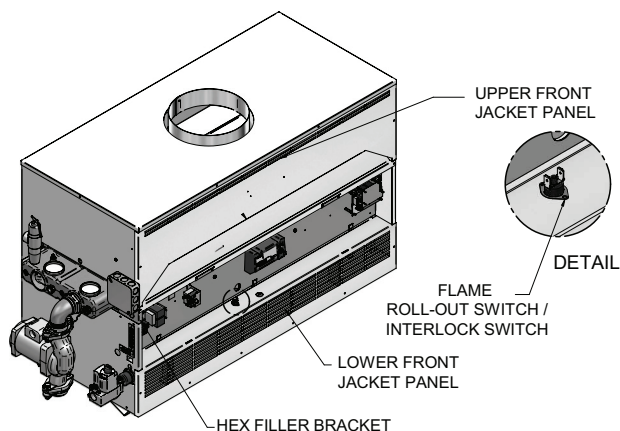

Figure 7-2_ Outer Air Deflector and HEX Filler Bracket
- d. Remove the outer air deflector (FIG. 7-2).
- g. Disconnect the wiring from the flame rollout/interlock switch, see FIG. 7-2, page 53.
- r. Remove the heat exchanger (HEX) filler bracket (FIG. 7-2).